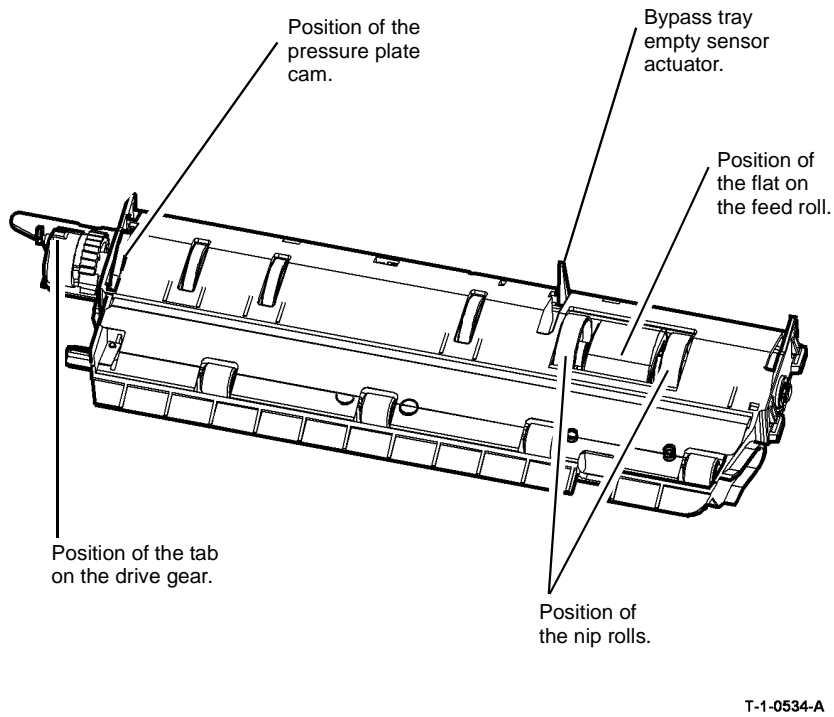

Figure 2 Component alignment
2. Before replacement of the feed head, ensure that feed roll, pressure plate cam and drive gear are correctly aligned, Figure 2.